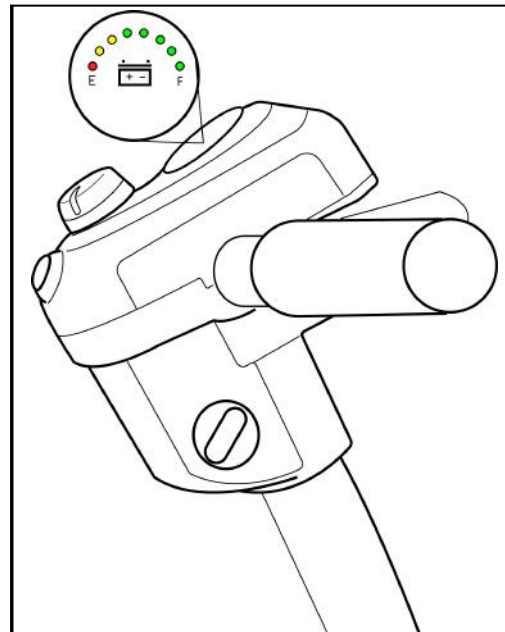

Figure 14. Key Switch (On)
4. Turn the key clockwise to the “On” position. See figure 14 on page 20.